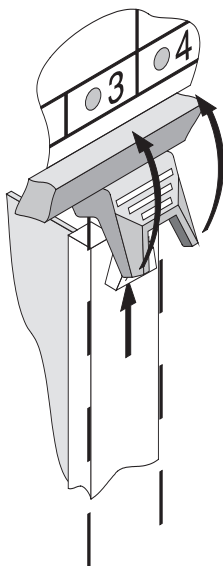

Figure 3-5 Ejecting the module
- 3 To unlock the module ejector, press the sprung catch and move the flap to the open position. See Figure 3-5. This operation must be applied simultaneously to both ejectors on the module